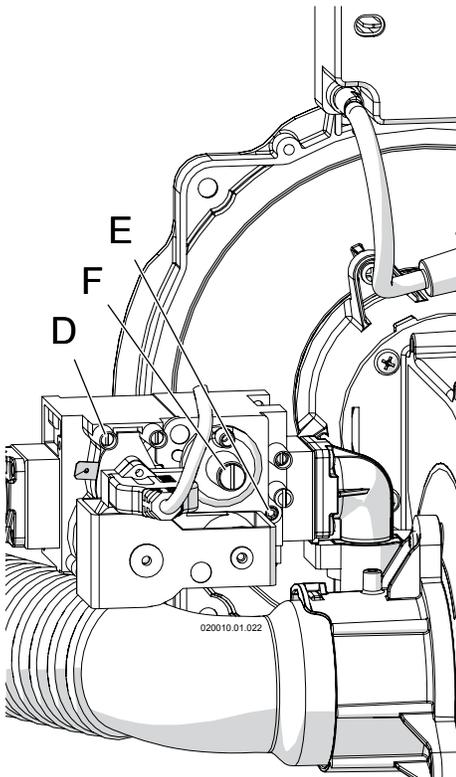

Figure 15-1 Gas valve
3. turn the screw in pressure port "D" shown in Figure 15-1 three turns counterclockwise;
4. connect a manometer with graduations of at least 0.1 in.W.C. (0.25 mbar) to the inlet gas port "D" shown in Figure 15-1 (on unit model 399 and 500, choose the pressure port "D" from any gas valve present).
3. turn the screw in pressure connection "D" in Figure 15-1, clockwise until snug;
4. check pressure port "D" (Figure 15-1) for any gas leaks;
6. compare the CO2 reading with the high fire range given in Figure 14-7, making sure to use the range for the gas type in use. If the CO2 reading is outside the specified range, it must be adjusted operating on the "E" screw of Figure 15-1. Use a 2.5mm Allen Wrench to turn the screw (clockwise to reduce the CO2 level, counter-clockwise to increase the CO2 level) in small increments and wait for the CO2 to stabilize to prevent overshooting the desired value;
- e. compare the CO₂ reading with the high fire range given in Figure 14-7, making sure to use the range for the gas type in use. If the CO₂ reading is outside the specified range, it must be adjusted operating on the "E" screw of Figure 15-1 of the gas valve closer to the burner unit in fire. Use a 2.5mm Allen Wrench to turn the screw (clockwise to reduce the CO₂ level, counter-clockwise to increase the CO₂ level) in small increments and wait for the CO₂ to stabilize to prevent overshooting the desired value;
- f. when CO₂ level match the value of Figure 14-7, seal screw "E" (Figure 15-1) with red paint or nail polish to discourage tampering.